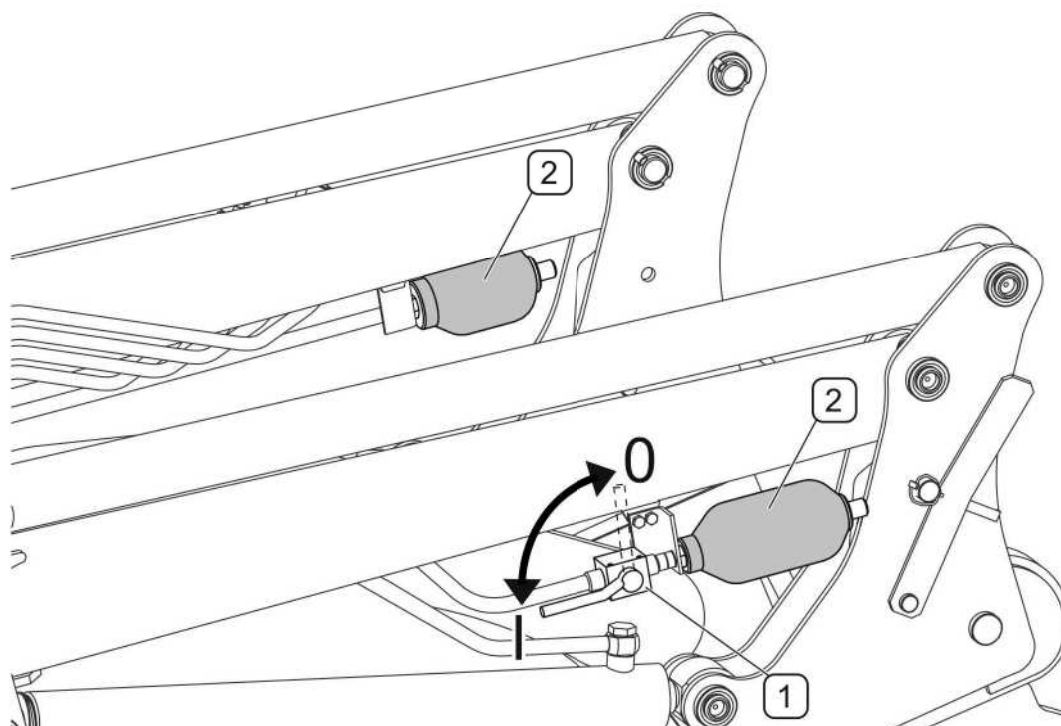

FIG. 4.27A Engaging hydraulic shock absorber
(1)- hydraulic shock absorber valve; (2)- hydraulic shock absorber; (0)- valve in closed position; (I)- valve in open position
The hydraulic shock absorber may be disconnected setting valve lever (1), (FIG. 4.27A) in vertical position. It is recommended to deactivate shock absorber in work requiring precision of loader setting (e.g. work with pallet forks).